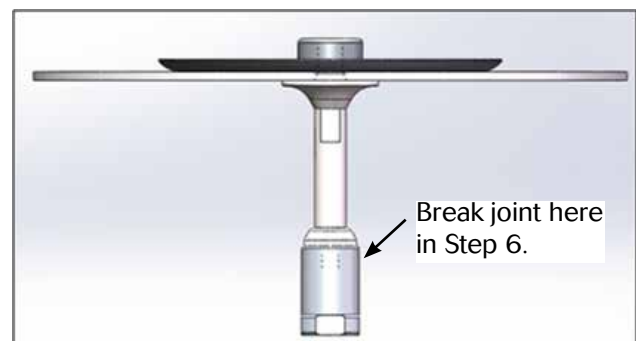

Figure 1: Diaphragm/Seat Assembly
3. Refer to assembly with bill of materials for basic regulator and Figure 1 for diaphragm/trim subassembly
1. Remove knob assembly (9) completely from the spring housing (7).
2. If valve is removed from the line, clamp the valve in a vise, upside down, clamping on the spring housing (7) flats.
3. Remove bottom cap (10) by turning CCW and remove return spring (13).
4. If valve is in a vise at this point, turn valve over clamp the valve back in the vise, right side up, clamping on the body subassembly (15) flats.
5. Remove spring housing (7) and upper diaphragm casing (2) by removing 8-HHCS 5/16-18 x 3/4" (16) from perimeter of upper diaphragm casing (2). Remove spring guide (6) and spring (14).
6. Using soft jaw pliers on the upper diaphragm plate (4) and a flat screw driver inserted into the slot of the seat guide (12) disassemble the diaphragm/seat assembly in Fig. 1 at the LDP tied stem (1) and the seat guide (12) as indicated by the arrow.
7. Remove seat guide (12) and seat (11) from body subassembly (15).
8. Remove upper diaphragm plate (4), diaphragm (3), and LDP tied stem (1) from the body subassembly (15).
9. Using soft jaw pliers on the upper diaphragm plate (4) or by holding it with a vise and using a box wrench on the flats of the LDP tied stem (1) loosen and remove the diaphragm.
10. Remove bottom cap gasket (5) and clean all parts to be reused according to owner's procedures.
12. Reassemble the upper diaphragm plate (4), the new diaphragm (3), and the LDP tied stem (1). Tighten the assembly until the diaphragm just starts to deform by holding the upper diaphragm plate (4) with soft jaw pliers or a vise and threading the LDP tied stem (1) into the upper diaphragm plate (4).
13. Place the assembly from step 12 into the top of the body subassembly (15) with the lower diaphragm plate/seat tip LDP tied stem (1) passing through the orifice of the body.
14. Place seat guide (12) and seat (11) back into main body (15) cavity. Thread the seat guide (12) onto the LDP tied stem (1) and tighten.
15. Place new bottom cap gasket (5) into bottom of threaded body chamber.
16. Place return spring (13) into the body against diaphragm/seat assembly bottom.